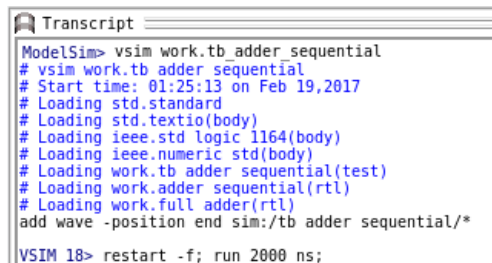
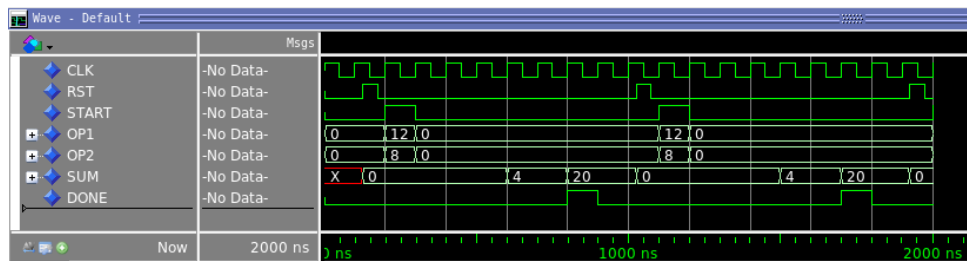

Figure 18: Transcript
Figure 19: Waveform (repetitive input feeding)
6. Finally, in the simulation transcript, type `restart -f; run 2000 ns;` (Figure 18). A waveform window should appear with the result of the simulation (Figure 19).